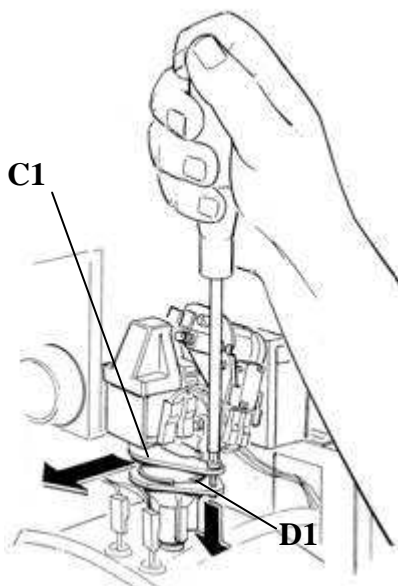

Fig. 7
• Using an 8 mm socket wrench E1, loosen the nut that holds the post-mix valve D1 (fig.7).
• Lift the post mix valve D1 up slightly and turn it towards the outside. Leaving nozzle F1 and coupling attached to the bowl (fig.7).